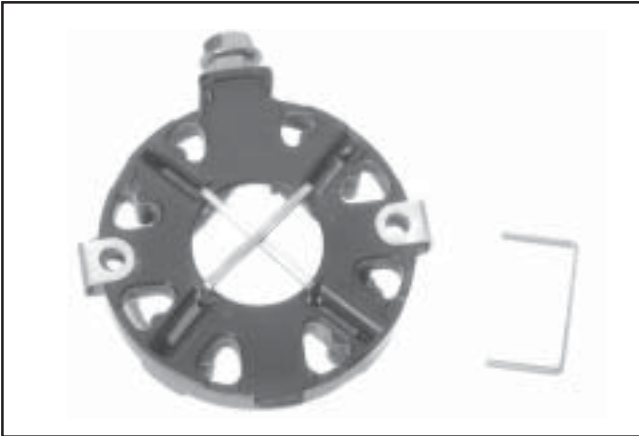

Figure 8-42. Style "B" Commutator End Cap with Brushes.
4. If the brush assembly is not being replaced, position the brushes in their pockets in the carrier. Move them to the retracted position, and install carton staples to retain them. See Figure 8-42.